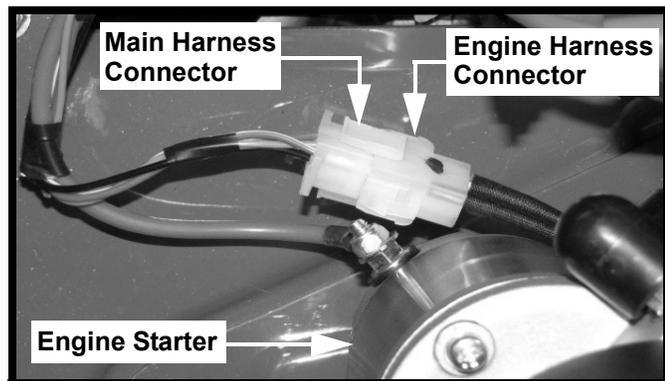

FIGURE 1
3. Locate the 6 pin female engine harness connector and the 6 pin male main harness connector located on the starter side of the engine. See Figure 1.